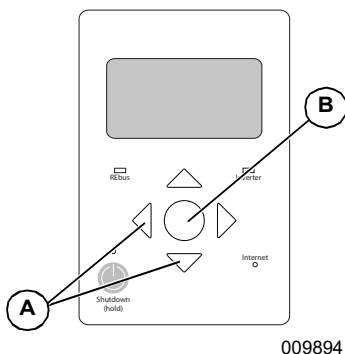

Figure 6-1. Inverter Control Panel
See Figure 6-1. To access the device page for each PV Link, use left or right arrow buttons (A) on the inverter control panel to scroll through the pages. When on a PV Link device page, press center button (B) to enable or disable the device or to modify settings. The disabled/enabled state does not affect communication with the inverter.